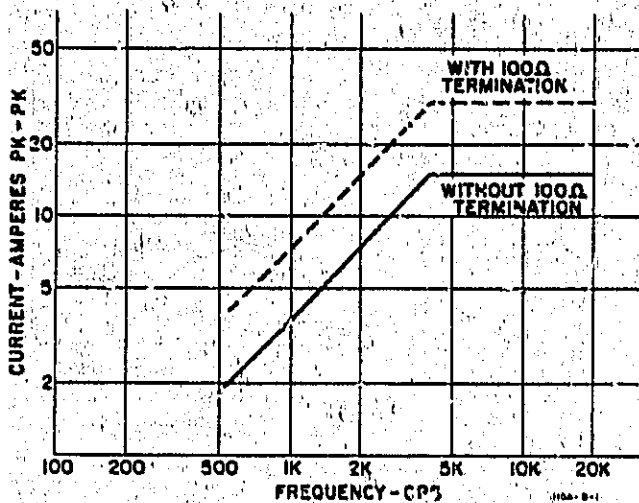

Figure 2. Maximum AC Current
17. Peak Current. The peak current which the probe will accept is determined by both probe head saturation and heating at high frequencies. Figure 2 shows a plot of maximum current vs frequency.